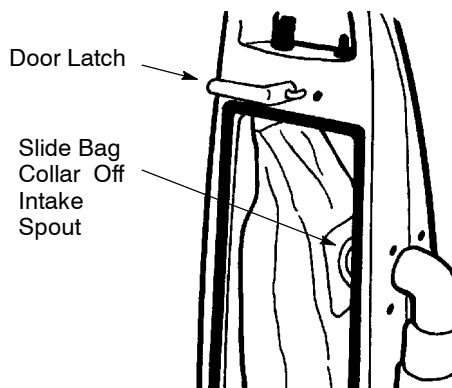

FIG. 7
1. Open rear door by turning door latch/upper cord hook 90° (Figure 7).